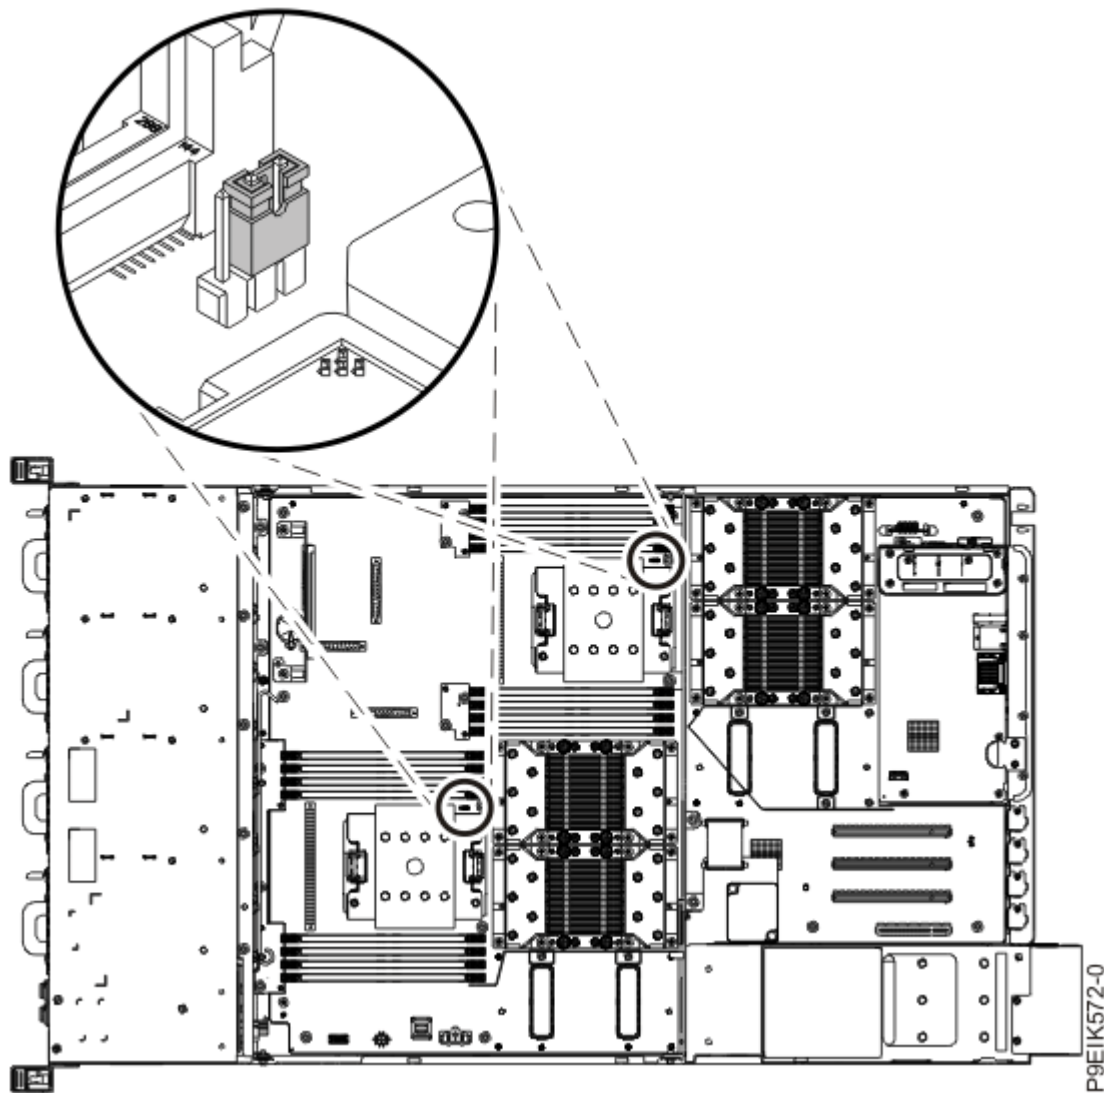

Figure 38. System processor jumper positions
5. Install the system processor jumpers on the system backplane as shown in Figure 38 on page 52.